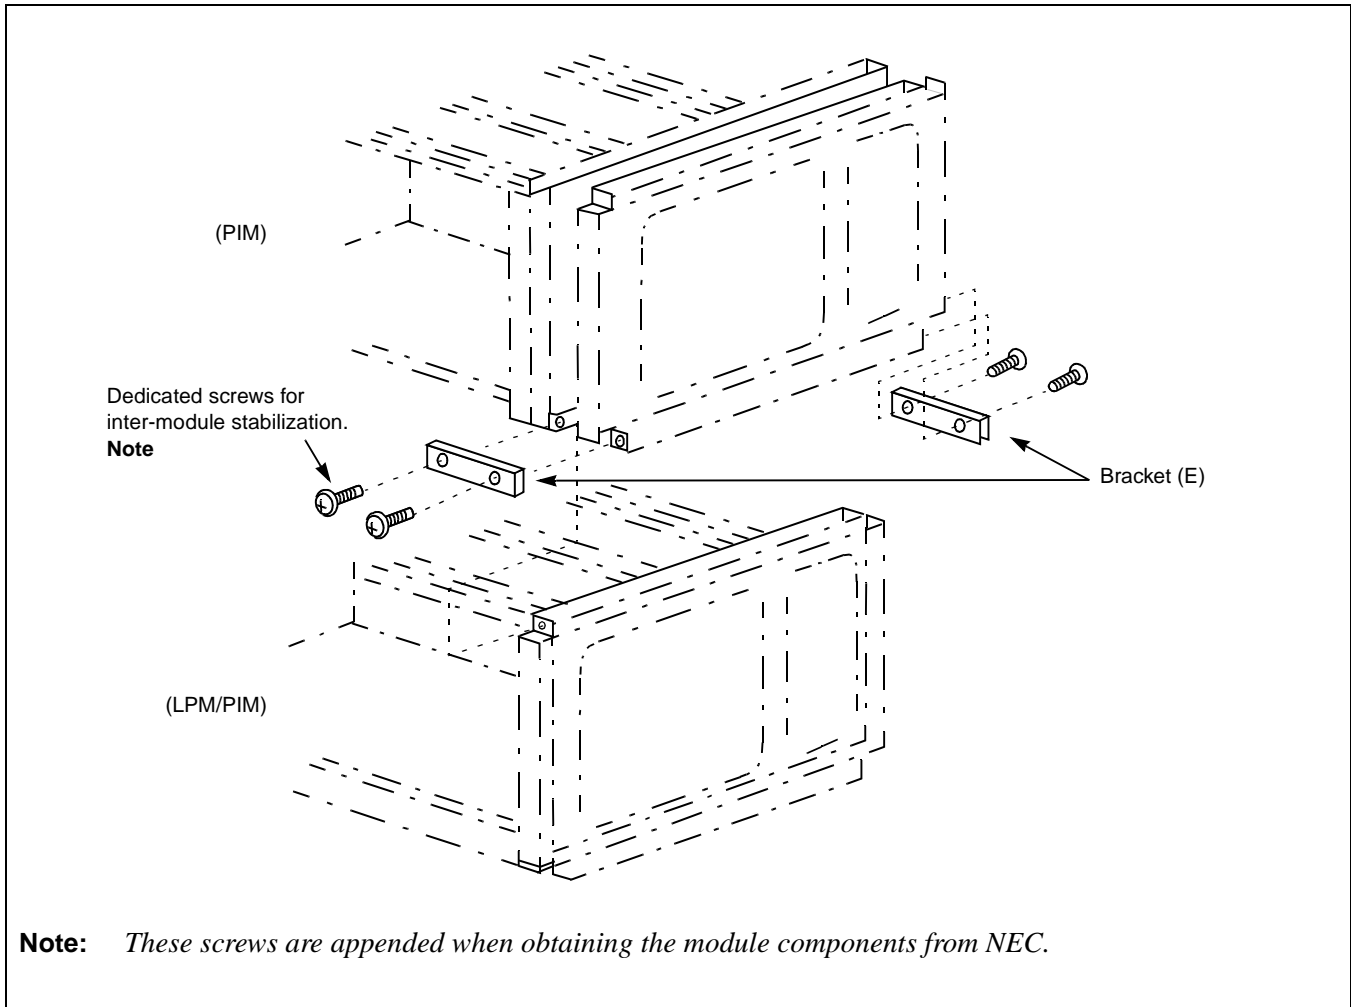

Figure 7-11 How to Attach Inter-frame Brackets
STEP 6: Referring to the Figure 7-11 through Figure 7-11, fix the brackets (E) between the modules.
STEP 7: Referring to Figure 7-11 and Figure 7-11, fix the brackets (A) with the screws.